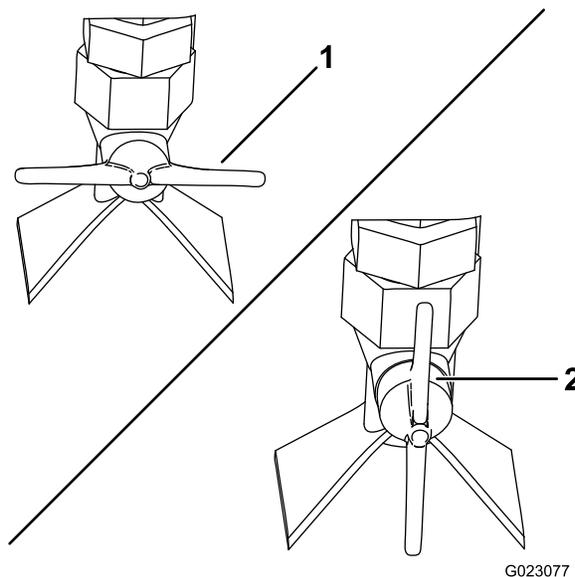

Figure 55
- For fan-shaped spray, turn the spray valve on the side of the nozzle horizontal (Figure 55).
- For a stream, turn the spray valve on the side of the nozzle vertical (Figure 55).